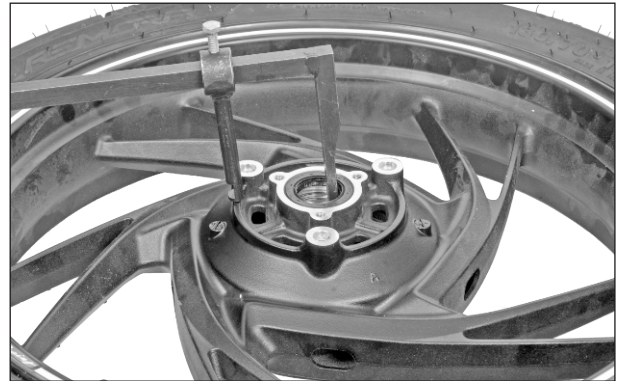

Fig. 6.85
- Remove the oil seal using special tool. (Fig. 6.85)